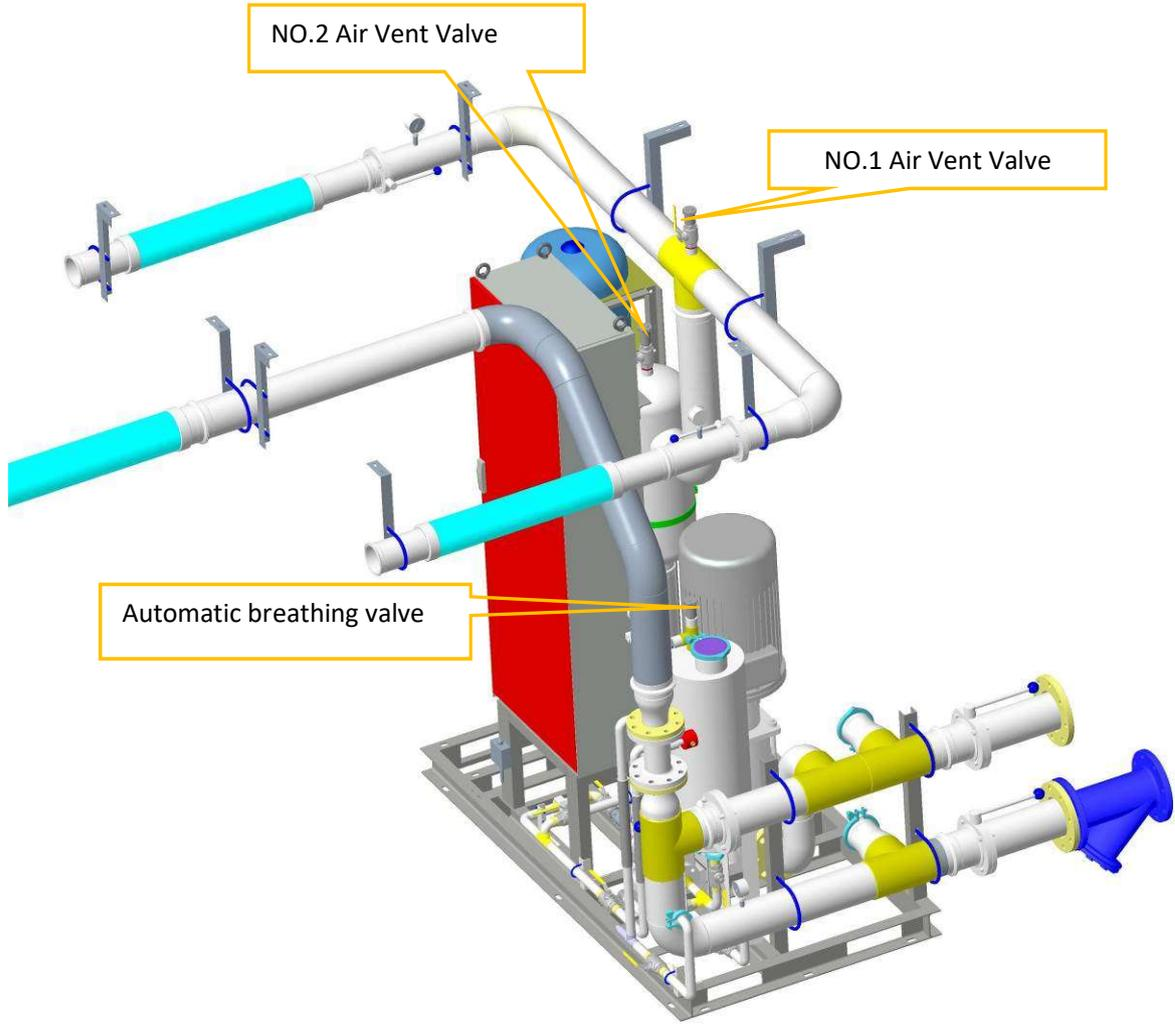

Figure 7-1 Internal container - automatic exhaust valve
- 3) Check if the automatic exhaust valves or the ball valves on the internal and external pipes of the container are opened. (See Figures 7-1 through 7-3);
- 4) Open the top exhaust valve of the water tank and install the chuck, ensuring that the tank is connected to atmospheric pressure. (See Figure 7-1).